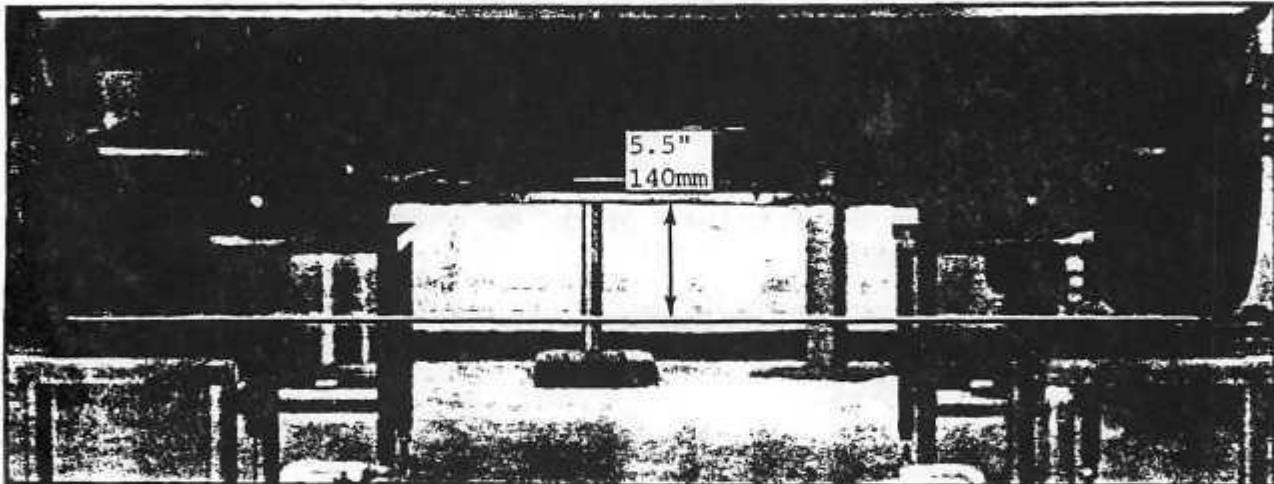

FIGURE 1
5. Check and, if necessary, adjust setting height 140 mm (5.5 inches). Figure 1. This measurement must be taken from the center of the front crossmember.